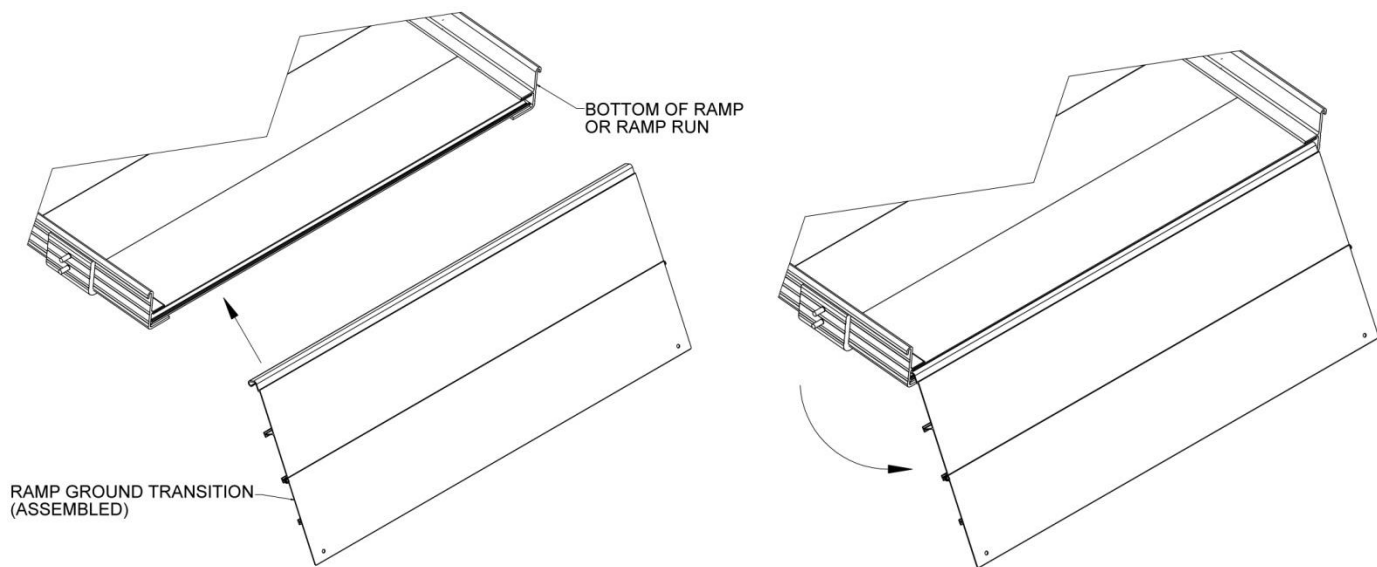

FIG. 3.12
- 3.4.3. After assembly, lift the lowest end of the ramp, bring the ground transition into the ramp end tread until the “hook” is engaged and rotate into place (FIG. 3.12) then set on the ground (FIG. 3.13). NOTE: The hex washer head screws will keep the sections from sliding with respect to each other but the sections can still be separated until they are installed in the ramp and resting on the ground.